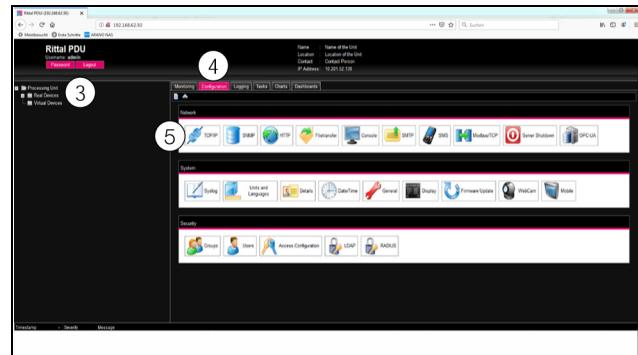

Fig. 35: Customise the TCP/IP settings
- Click the Login button to display the website of the device. The overview window for the device will appear (fig. 35).
The overview window for the device will appear (fig. 35).
- In the left-hand section of the overview window (navigation area), click the **Processing Unit** entry (fig. 35, item 3), and in the right-hand section (configuration area), click the **Configuration** tab (fig. 35, item 4).
- In the **Network** group box, click on the **TCP/IP** button (fig. 35, item 5).